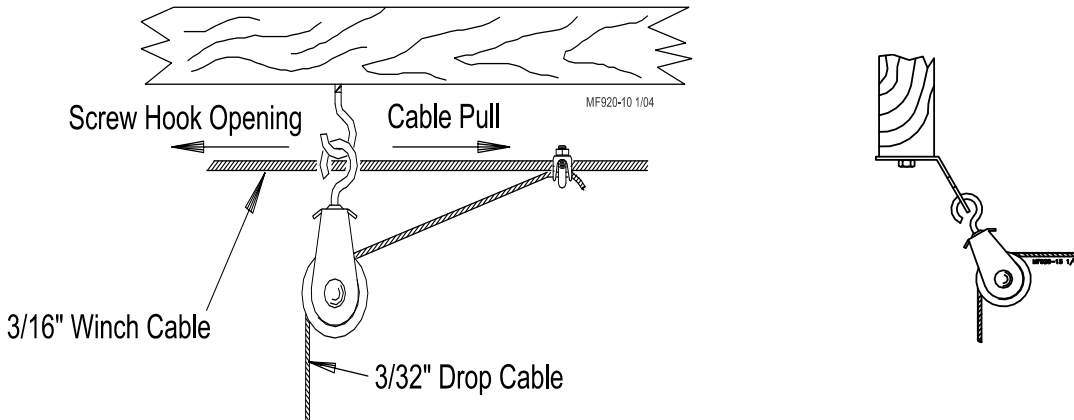

Figure 17. Drop
2. Thread the end of the 3/32" [2.3 mm] or 1/8" [3.2 mm] cable through the pulley toward the winch. Clamp this end to the 3/16" [5 mm] winch cable about 6" [150 mm] from the last pulley using a 3/16" cable clamp, see **Figure 17.**